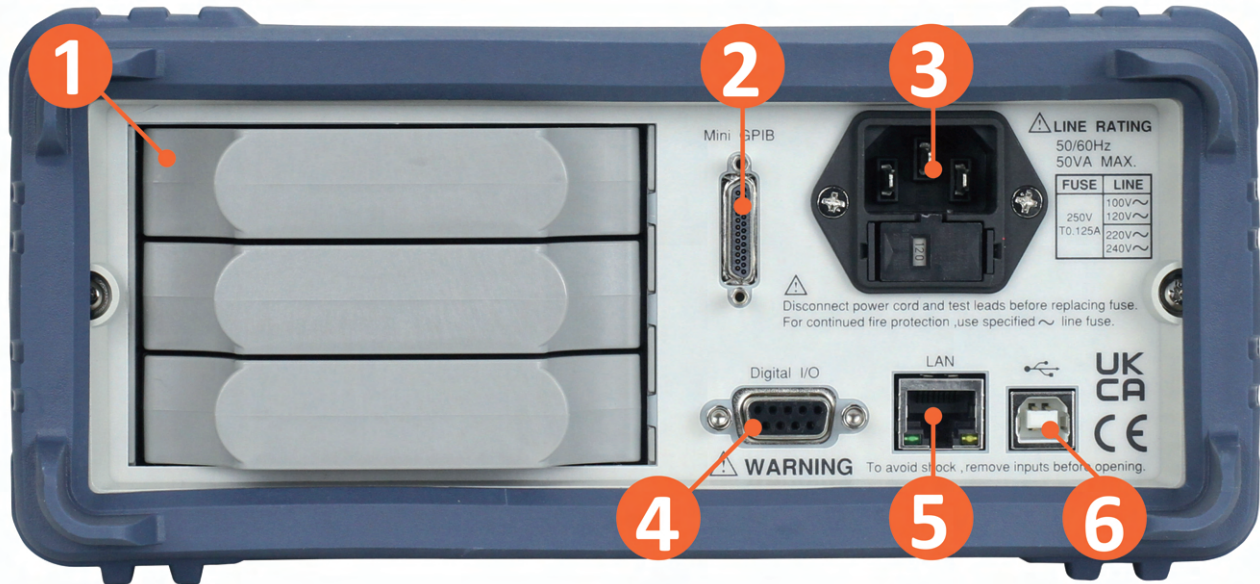

Figure 3.3 Rear Panel
- Step 1.** Locate the fuse box in the rear panel beneath the IEC 320 connector. (See figure 3.3)